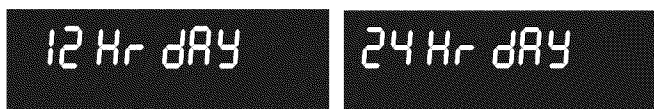

Figure 15: 12 Hr dAY (L) and 24 Hr dAY (R) settings
2. Press **Self Clean** to toggle between 12 Hr day or 24 Hr day display modes (See Figure 15).